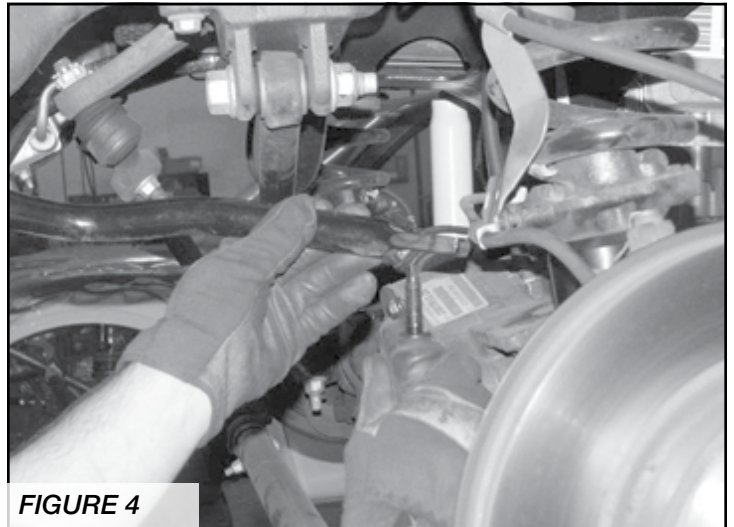

FIGURE 4
6. Disconnect the sway bar links at the end of the sway bar and save the hardware. **SEE FIGURE 4**